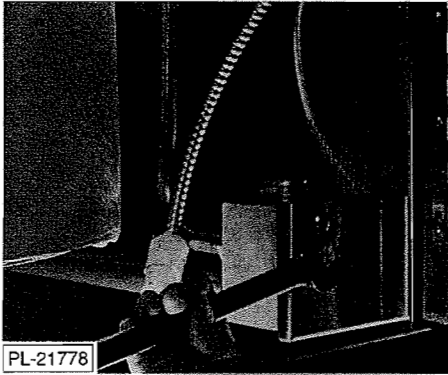

Fig. 23
4. With the kettle pressure regulator assembly out, use wrench (small end) to remove the plug screw from the cleaning port on the solenoid block (Fig. 23).